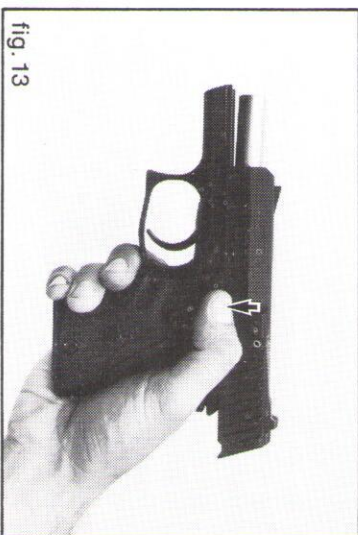

fig. 13
3. Release the slide by depressing the slide catch lever (fig. 13) or by pulling the slide to the rear and releasing it.